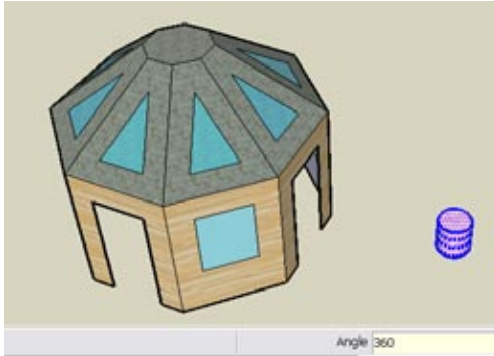

Figure 1-63
3. Create a copy 360 degrees away. This is a full turn around the circle, which means the copy is placed exactly on top of the original (Figure 1-63).